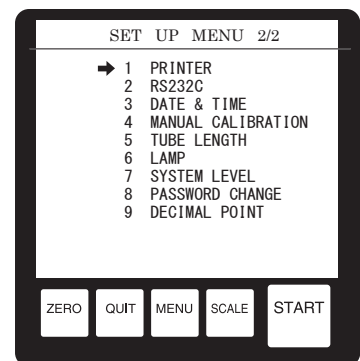

Fig.7-2
The display will change to the SET UP MENU screen (Fig.7-2). By using the $\downarrow$ or $\uparrow$ key, move the arrow to "8 PASSWORD CHANGE". Then, press the $\leftarrow$ key.
- a) Check to see if the arrow (→) is pointing to "8 PASSWORD CHANGE" in the SET UP MENU screen (Fig.7-2), and then press the ← key.